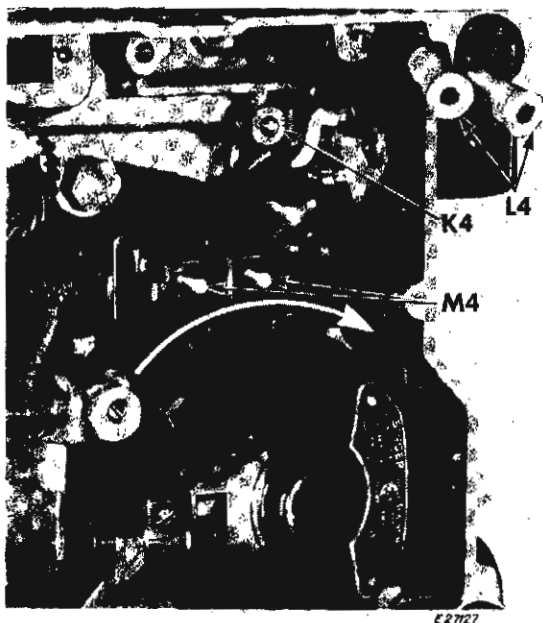

Fig. 300. Removing Motor
3. Remove motor hold-down plate, by removing screw from hole **K4**, Fig. 300.
4. Remove two electrical sleeve connections **L4** from motor terminals **M4**, Fig. 300.
2. Slide motor into position, turning hand wheel slightly to facilitate correct gear mesh. Push motor clockwise firmly until motor butts against casting, as shown by curved arrow in Fig. 300.
3. Fit electrical sleeve connections **L4**, Fig. 300 to terminals **M4**.